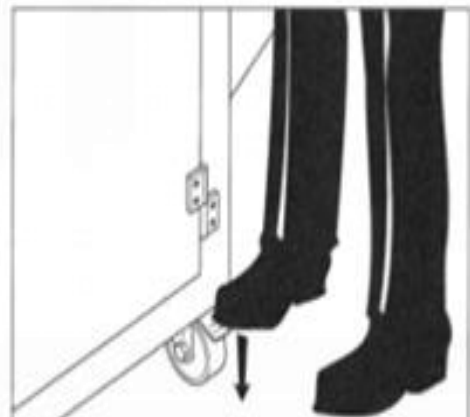

图 4.7 脚轮固定图
Figure 4.7 rolling casters fixing diagram
- 请务必将机器放置于平坦的地面上，并按图 4.7 要求，锁住脚刹。
Please be sure to place the machine on a flat floor and lock the foot brake as shown in figure 4.7.